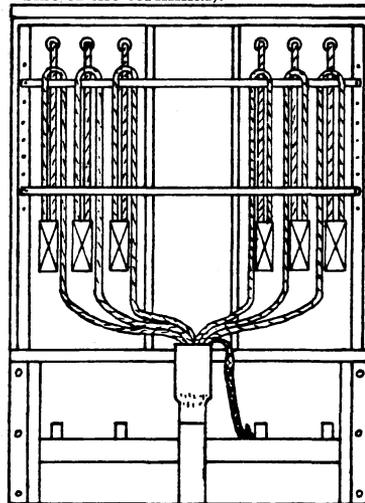

FIGURE 11 — SPlicing CHAMBER
4.02 Splicing — The terminal pair enter the splicing area through ports above the top splicing bar in 25 pair binder groups. Each binder group is color coded with cable ties to correspond to the binding post numbers on the front of the terminal. The blue white binder group containing blue white pair No. 1 enters the splicing area in the upper right corner. The other binder groups enter in sequence from right to left. Terminal pair length is sufficient for fold back splicing. Place cable pairs over top splicing bar to allow splicing to proper terminal pairs per standard splicing procedures. Bring both terminal pairs and cable pairs to lower region of splicing chamber and trim to equal length and splice (see Figure 11). The majority of the splice should be contained in the deeper portions of the splice area. Pull the splice bundle back snugly by running a ty-rap around the splice bundle and the tie down bracket provided on cabinet. Cable groups can be transferred from right to left or from left to right splicing area at either the top or bottom of splicing area by using the tie down brackets located in the intermediate regions of the splicing area. Place a spool of G cross-connect wire in holder provided. Close cabinet per Paragraph 3.02 when splicing is complete. Place warning decals on terminal. Place gravel in base flush with top of pad mount frame. Close cabinet per Paragraph 3.02 when complete.